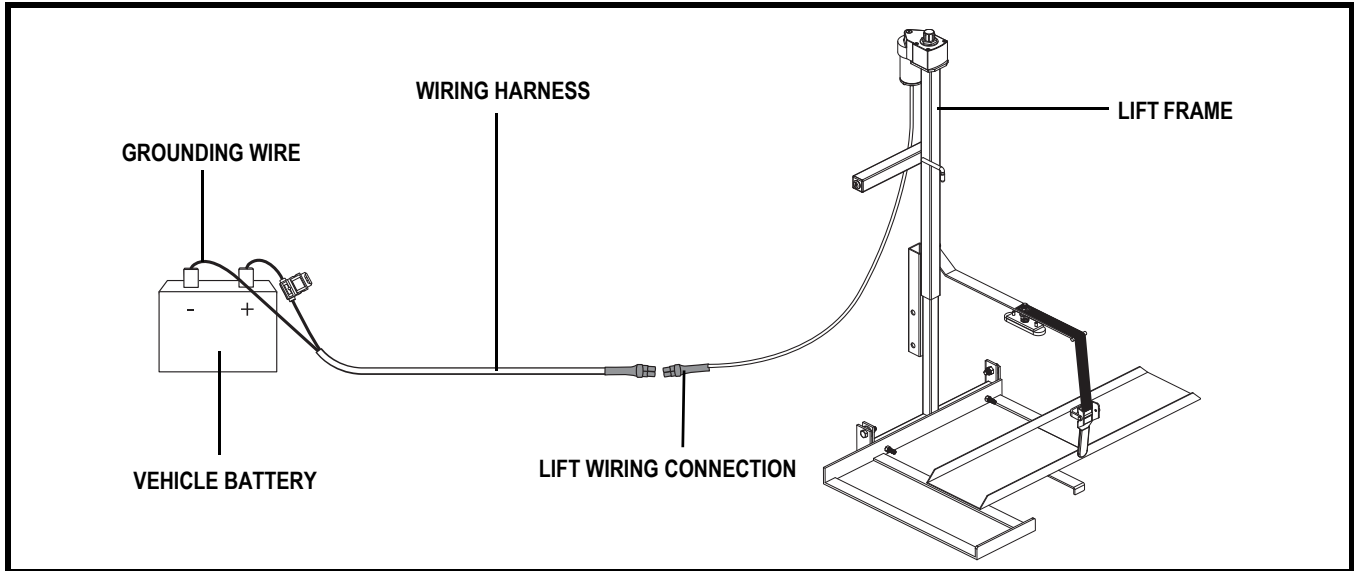

Figure 4. Wiring Harness Installation
1. Route the lift system wiring harness (starting at the lift) through the interior of the vehicle until you reach the automobile battery. See figure 4. You will typically find pass through points at the rear lighting assemblies, which will enable you to route the cable through the trunk and under the back seat.